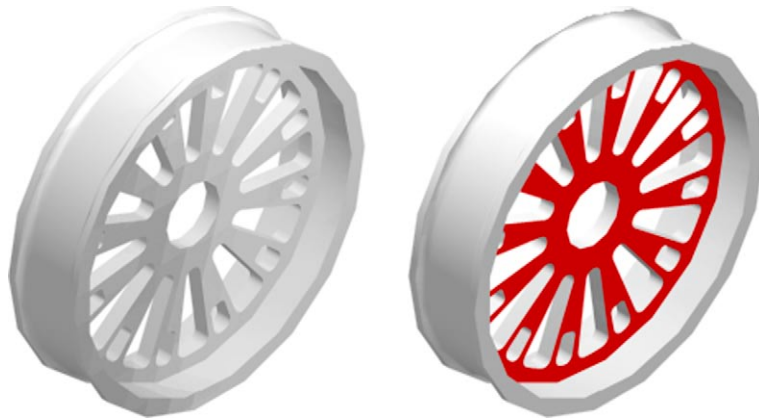

Fig. 18.12 Seventh example – Color faces tool
Seventh example – Color faces tool (Fig. 18.12)
3. Add lights and a material to the edited 3D model and render (Fig. 18.12).